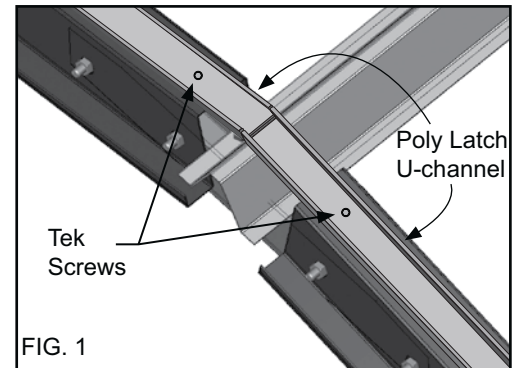
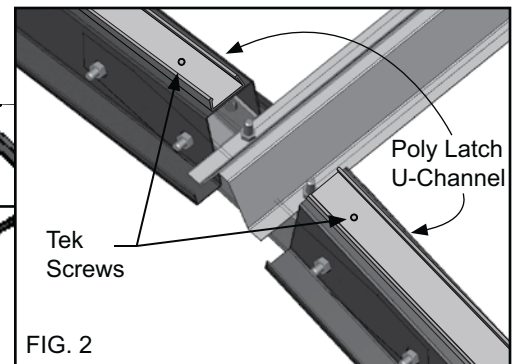

FIG. 1
FIG. 2
1. Using Fig. 1 and Fig. 2, determine how you want to finish the peak of the end rafter and continue.
103544 Mounting Plate (Figure 1)